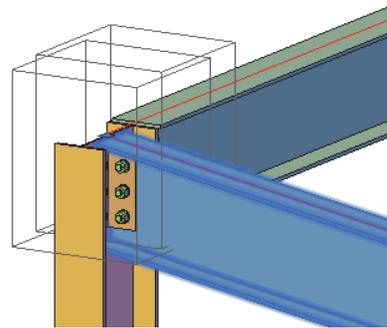

Figure 1-72
10. Use Advance Copy to move the beams along Grid B to the top of the 16'-0" columns, and then use grips to modify the crossing beams so that they are at an angle, as shown in Figure 1-72.